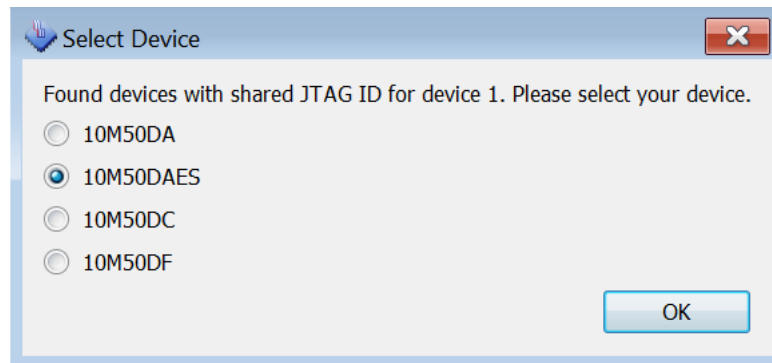

Figure 1-49 Select Device
7. Choose 10M50DAES and click OK, as shown in **Figure 1-49**.